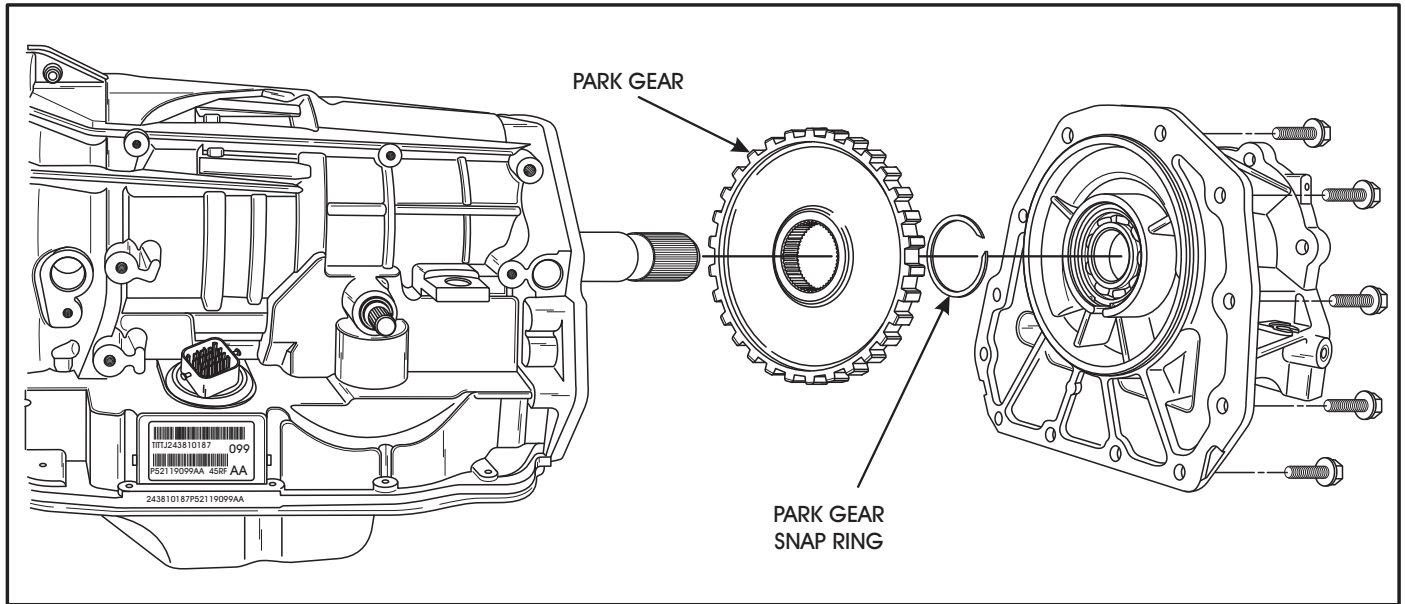

Figure 130
61. Turn transmission over on pan and install park gear and park gear retaining snap ring as shown in Figure 130.
62. Apply a bead of RTV silicone and install the extension housing onto the transmission case as shown in Figure 130.
63. Install 12 extension housing bolts/studs and, as shown in Figure 130, and torque bolts down to 54 Nm (40 ft lb).